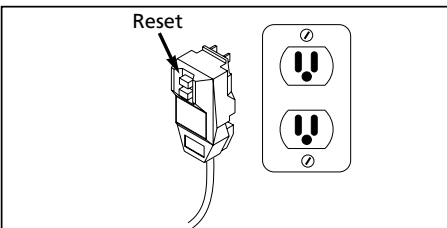

Figure 11 - Grounded plug/reset button
1. Plug the power cord into a grounded 120V outlet and press the reset button as shown in Figure 11.